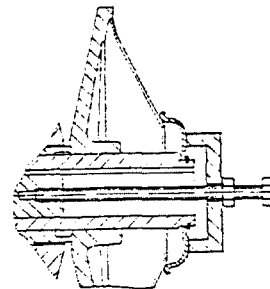

Fig.2
Unscrew axial tightening screw (12) OR screw (27) if with speed indicator, and remove end cap (10). With the aid of an extractor, gripping behind the hub flange of the pulley - remove the pulley (9) from the gearbox shaft, firstly remove the spring and spring retaining cap with a tooling aid.... See Fig.2. Then remove the pulley from the gearbox shaft as indicated in 3.1.3 point 1.